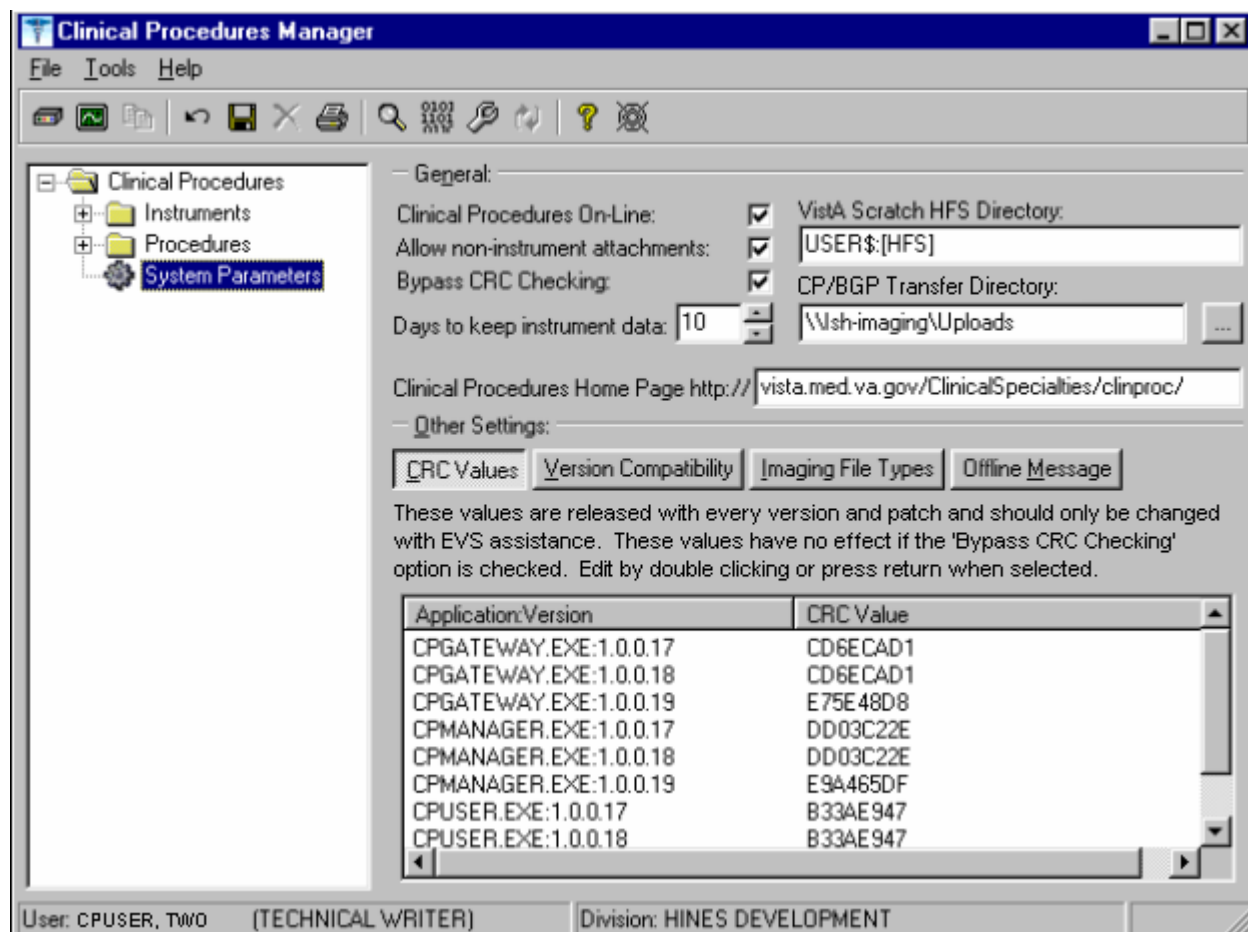

Fig. 6-10
1. Click **System Parameters**, which is displayed under the Clinical Procedures folder. The System Parameters Edit window is displayed. See Figure 6-10.